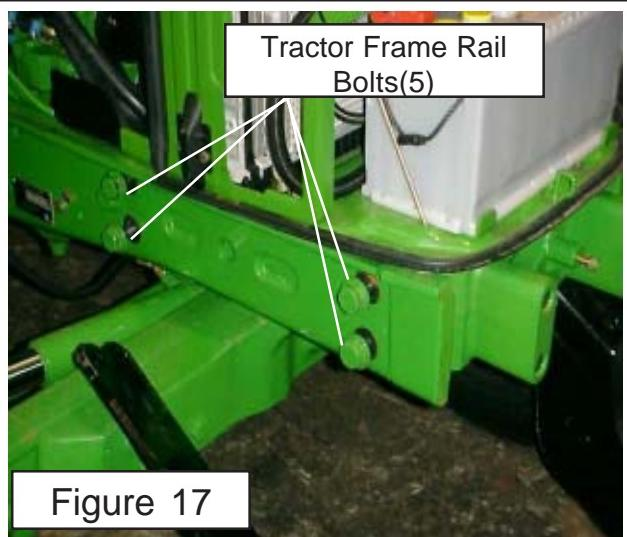

Figure 17
1. Remove Bolts from Tractor Frame Rails. Find the front most 4 Bolts in the Tractor Frame Rail, There are 4 on the RH side and 4 on the LH Side. **DO NOT REMOVE THE BOLTS FROM BOTH SIDES AT THE SAME TIME**, ONLY do one side at a time the RH or the LH. For illustration start with the RH Side (**See Figure 17**). The RH & LH Frame Rail Supports have a Right and a Left. They will not interchange and must be mounted on the correct side. Notice the way they are built, the Plate part that bolts to Tractor is longer in the front on both LH & RH. Make sure the longest part is to the front (**See Figure 18**).